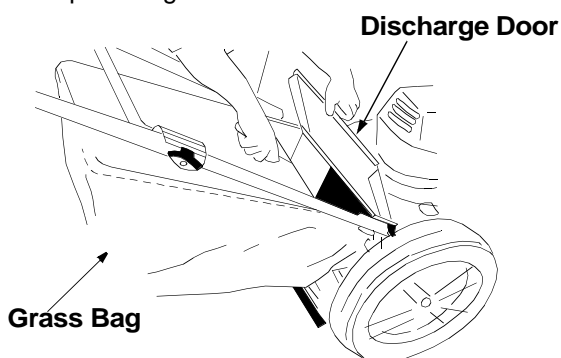

Figure 9
- Place the hooks, found on both sides of the grass catcher frame, over the chute door pivot rod at the rear of the mower. See Figure 9. Release the rear discharge door.
- **To remove the grass catcher,** lift the rear discharge door on the mower. Lift the grass catcher up and off the pivot rod. Reinstall the mulching baffle and release the rear discharge door. See Figure 9.